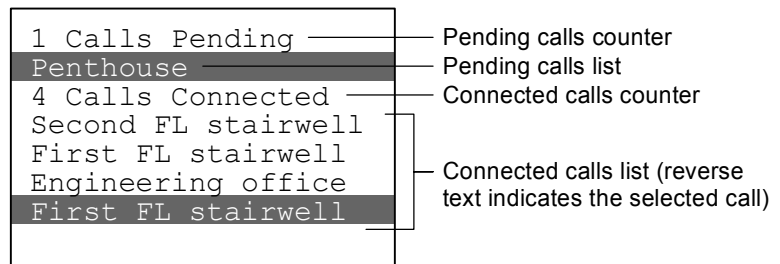

Figure 4-8: One pending call and four connected calls
2. Press the Disconnect switch. The call will be removed from the connected calls list and added to the pending calls list as shown in Figure 4-8 below. When the remote phone is hung up or removed from the phone jack, it will be removed from the calls pending list.